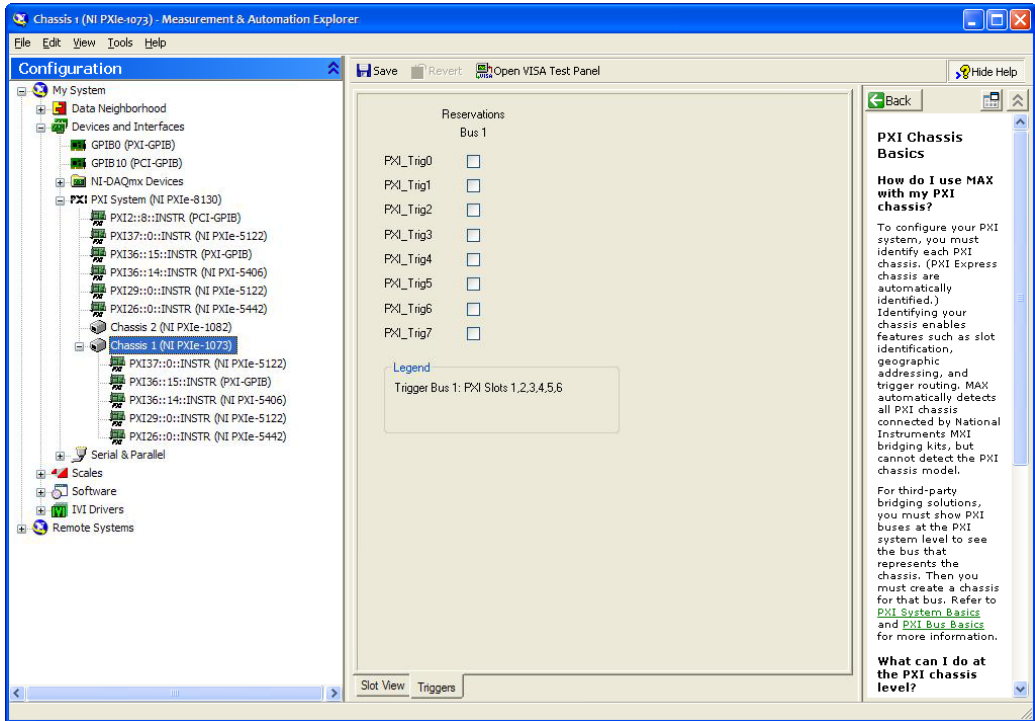

Figure 2-8. Configuring Triggers in MAX
3. Select which trigger lines you want to statically reserve, as shown in Figure 2-8.